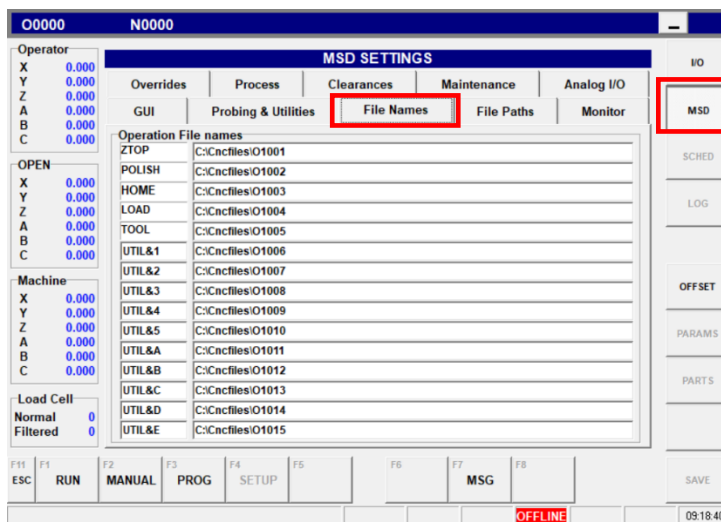

Figure 32 - Setting up a utilities program
10. Press “MSD” button. See (Figure 32 - Setting up a utilities program).
11. Select “File Names” tab page. See (Figure 32 - Setting up a utilities program).